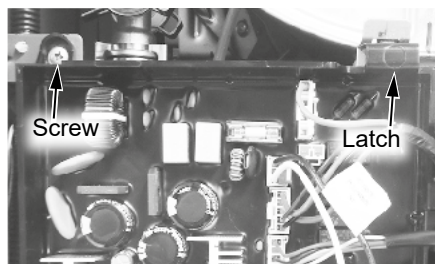

Figure 1 - Control board location
- 5** Locate the screw securing the control board panel. Use a Phillips screwdriver to remove the screw and place it aside in a safe place for reinstallation. See Figure 1.